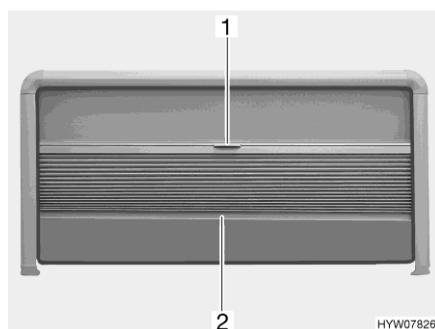

Fig. 41 Roman shade and insect screen (hinged window)
*Closing:* ■ Hold the Roman shade in the centre of the bottom rod (Fig. 41,2) and carefully draw it downwards.
*Opening:* ■ Hold the bottom rod (Fig. 41,2) of the Roman shade in the centre and carefully slide the Roman shade upwards.
*Closing:* ■ Pull insect screen at the handle (Fig. 41,1) downwards.
*Opening:* ■ Move insect screen at the handle (Fig. 41,1) fully upwards.